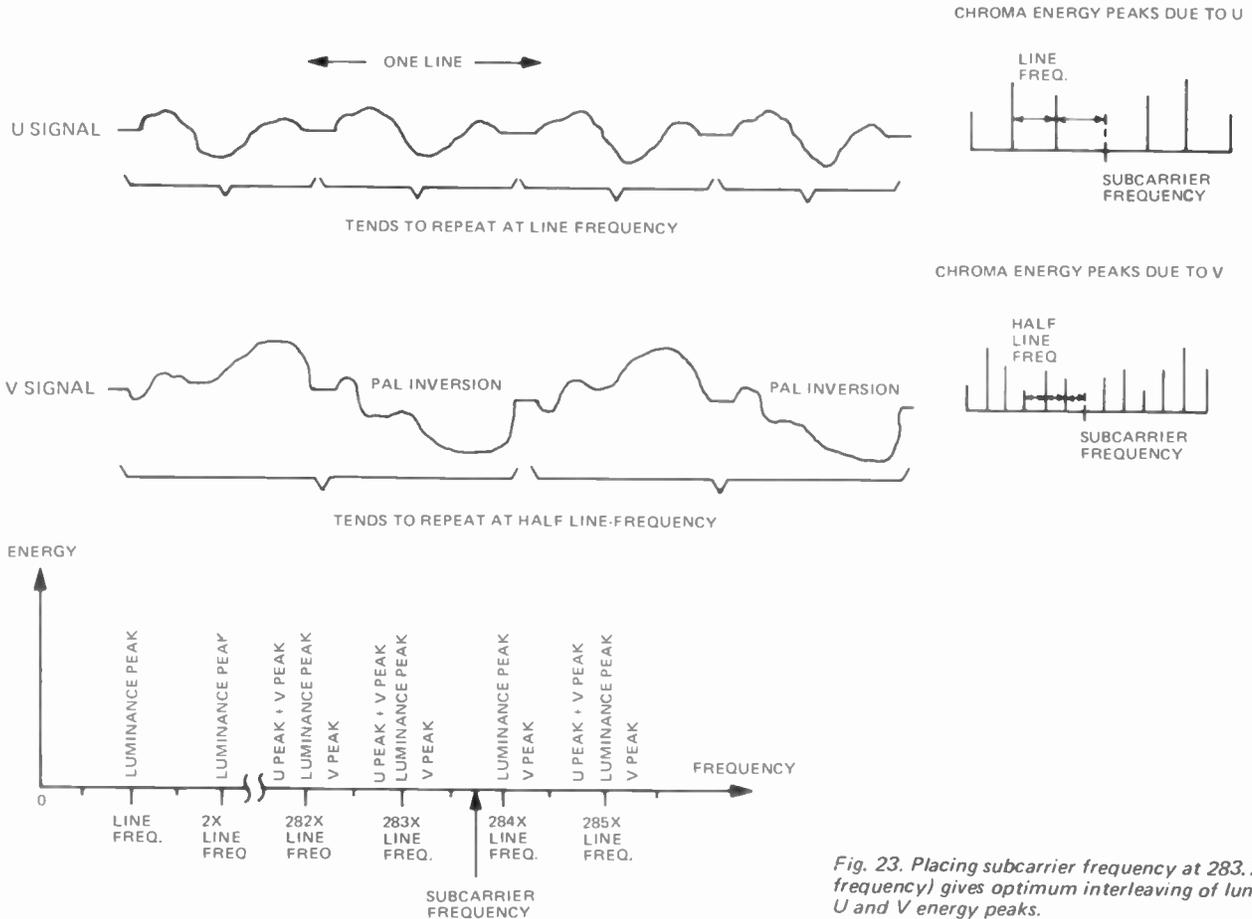

Fig. 23. Placing subcarrier frequency at 283.75 (line frequency) gives optimum interleaving of luminance, U and V energy peaks.
4. Since one of the colour-difference signals ('V') is reversed (or 'modulated' by) half line-frequency in the PAL system, the chroma energy peaks due to V alone are at steps of only half line-frequency either side of subcarrier frequency — see Fig. 23. To separate these peaks from the luminance peaks a better choice of subcarrier is $283.75 \times$ (line frequency).